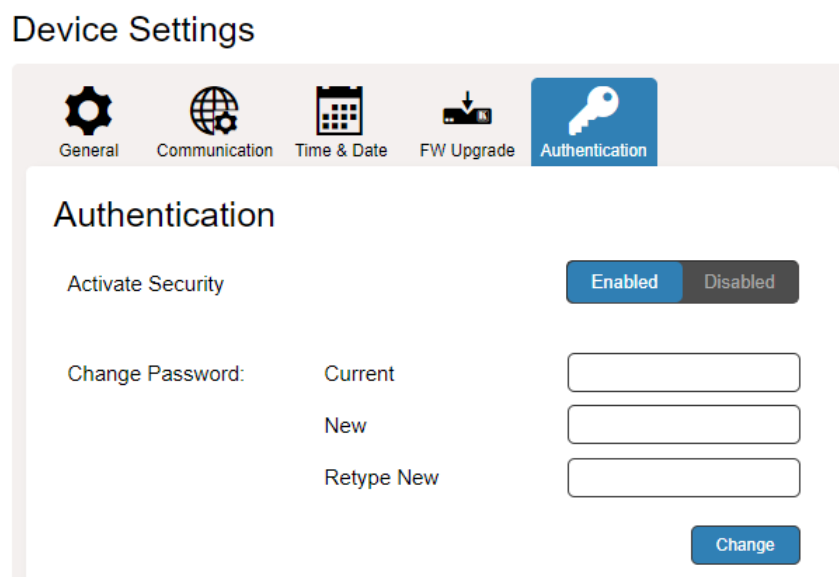

Figure 24: Device Settings Page – Authentication Tab
2. Select the Authentication. The Authentication tab appears (Figure 24).